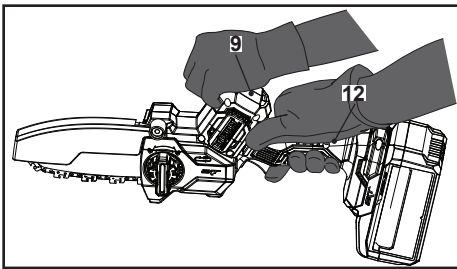
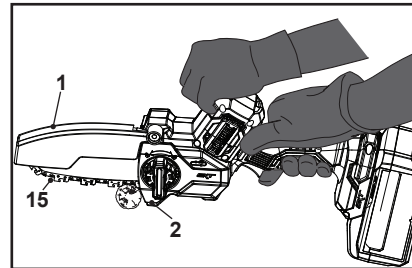

Fig. 18
Fig. 19
2. Ensure you have a firm grip on the product at all times. Hold the control handle (12) securely while operating the product. If needed, place your other hand on the rear handgrip (9) as an auxiliary handle to maintain a comfortable and balanced posture (Fig. 18).
3. Ensure that the saw chain (15) is properly lubricated before performing any cut.
4. Ensure the saw chain (15) is running at full speed before it makes contact with the wood. Use the base plate (2) to secure the product onto the wood before starting to cut and use it as a leverage point while cutting (Fig. 19).